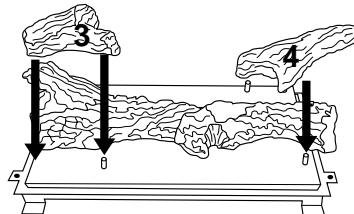

Figure 45 - Installing Logs No. 3 and No. 4
3. Place logs #3 (left front log) and log #4 (right front log) onto pins as shown in Figure 45.